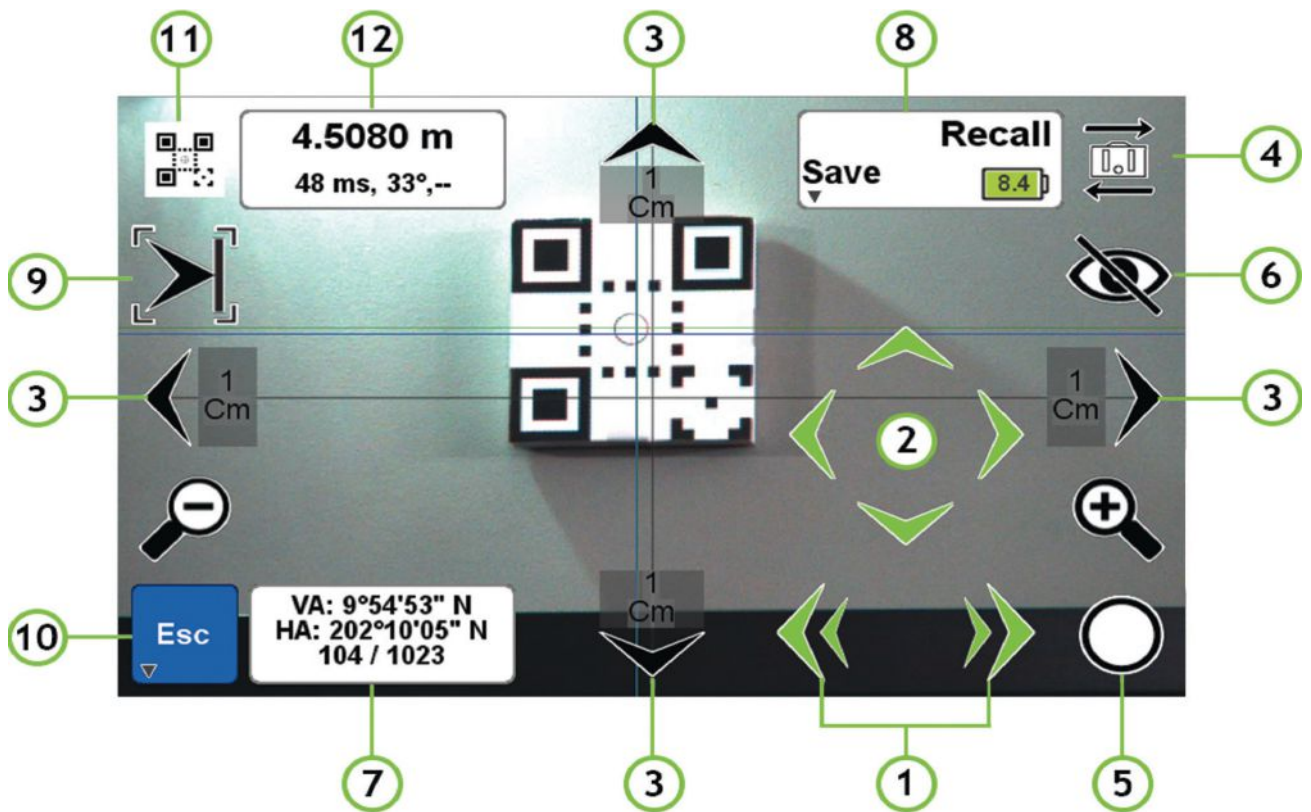
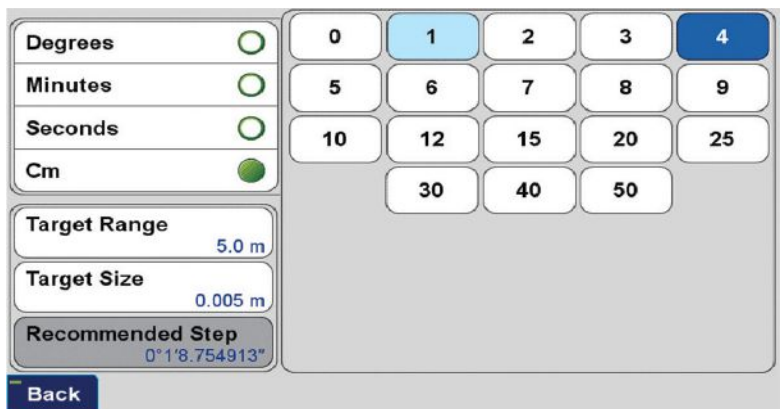

Figure 1
Figure 2
Clicking button “6” in Figure 1 will remove some of the items from the screen (Figure 5). Hold it long and you will see live view of the points taken by J-Mate.
Aim at the first point and click button “7” of Figure 1. Then Aim to the second point and click this button again. You will see the horizontal angles between the two points.
Aim at a point and hold long the button “8” of the Figure 1 to save the horizontal, vertical, or both of that orientation (Figure 7). Click this button to rotate to that saved orientation.
Click button “9” of Figure 1 and the left and right motion buttons (“3” on Figure 1) change to red which means when you click them scanning to snap will start. Hold long button 9 to get to the screen that sets the parameters for the Scan and Snap operation.
Holding the “ESC” button (“10” in Figure 1) will take you to Figure 8 which lets you disconnect J-Mate, Reboot, or turn off. Like all Wi-Fi connections, you may lose connection and need to use this screen to disconnect, re-connect, or re-boot J-Mate and in some occasions reboot TRIUMPH-LS too, especially when connection between the camera of the J-Mate and TRIUMPH-LS is lost.
Box “12” of the Figure 1 shows the range measurements. It reads up to 20 times per second.
Click the QR icon (“11” of the Figure 1). You will be guided through the following steps to aim at your target point. :
1. On the bottom right of the Main View screen, there are left and right “Fast Motion” buttons. While you hold them the J-Mate rotates about 30 degrees per second. (“1” on the Figure 1)
2. Above them, there are slow Left/Right/UP/Down “Slow Motion” buttons. While you hold them, the J-Mate rotates about 5 degrees per second. (“2” on the Figure 1)
3. Then there are Left/Right/Up/Down buttons around the screen. Each click moves the J-Mate according to the value that users assign to them. Hold these buttons to assign angular or linear values to them (“3” on the Figure 1). The Value Assignment Screen is shown in Figure 2.